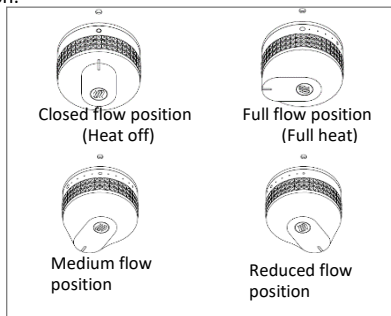

Figure 1: Adjusting the control lever
6. Then adjust the height of the flame by turning the control lever(s) from full flow (large circle) to reduced flow (small circle) (See Figure 1).